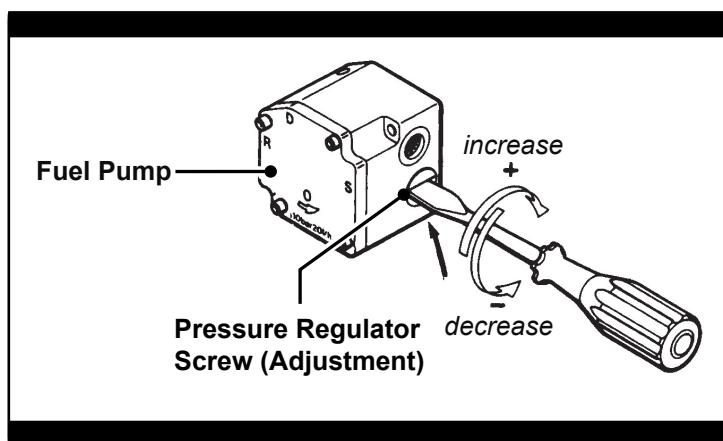

Figure 21
- A:** A *Fuel Pressure Gauge* (reference Section 11 for special tools information) is used to properly check the Fuel Pump's pressure setting; reference Figure 21. The *Fuel Pump* is preset to 145 psi (the pressure required for proper fuel atomization at the *Fuel Nozzle*). Perform the following procedures to check for a proper fuel pressure setting.
1. Remove the *Fuel Nozzle* (reference Figure 17) and replace it with the *Fuel Pressure Gauge*; reference Figure 21.
1. Turn the "Diesel" switch **ON** and wait until a pressure reading registers on the *Fuel Pressure Gauge* (after approximately 10-25 seconds). Then, adjust the fuel pressure by simply turning the *Pressure Regulator Adjustment Screw* clockwise to increase fuel pressure or counterclockwise to decrease fuel pressure; reference Figure 21.